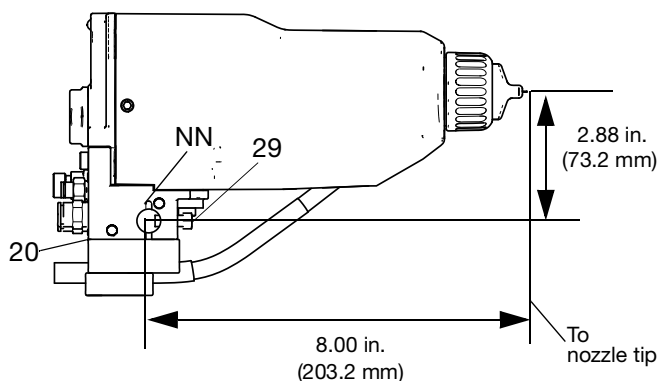

FIG. 4. Mounting
1. Loosen the manifold's two set screws (29) and slide the manifold (20) onto a 1/2 in. (13 mm) mounting rod. See FIGURE 4.
For added positioning reliability, insert a 1/8 in. (3 mm) locating pin into the slot (NN) in the bracket and through a hole in the rod. See the detail in FIGURE 4.